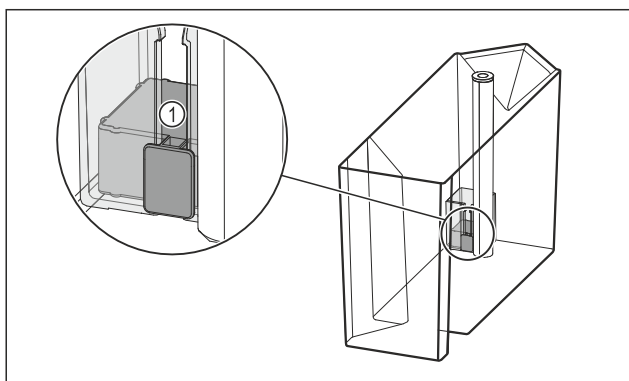

Fig. 101
- ▶ Check whether the float Fig. 101 (1) is jammed. If the float is jammed: